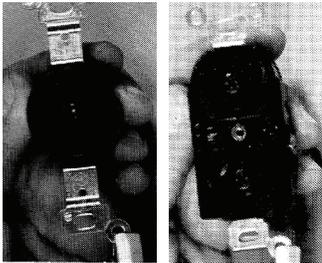

Figure 1
**NOTE:** Receptacle is to be fastened to back side of cover by use of two (2) special 6-32 x 3/16" flat head screws provided which are in receptacle mounting holes in back side of cover. Care must be used not to discard or lose these screws. Longer screws cannot be used since they will prevent proper attachment and positive grounding.
1. Remove two break-off ears on each end of receptacle strap to allow for positive seating on cover assembly. (See Figure 1.)